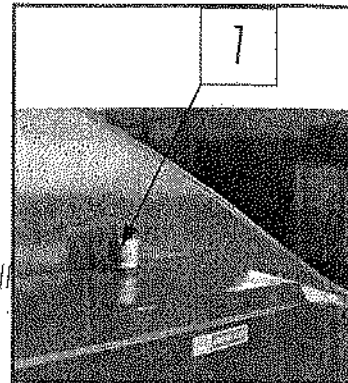

Figure 9-2. Breather cap
1. Check the hydraulic oil quantity with the dipstick of the breather cap1 (figure 9-2) on the tank. If oil level is below the lower mark of the dipstick, oil must be added. Always fill the hydraulic oil tank according to this instruction. **IT IS ABSOLUTELY FORBIDDEN** to add oil through the breather cap on the tank.